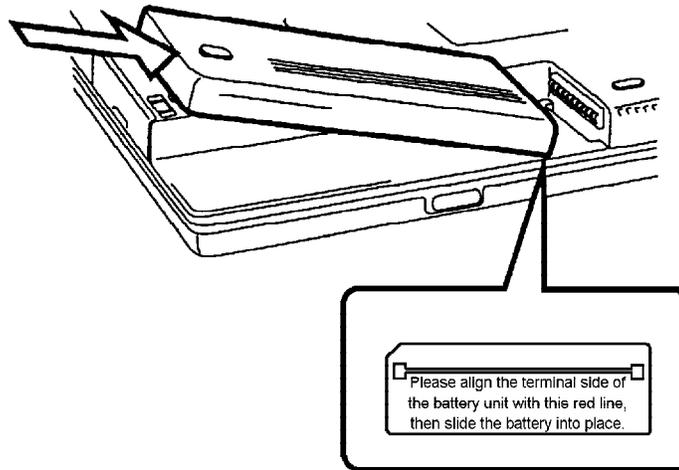

Figure 4-3 Installing the battery pack
2. Gently press down on the center of the battery pack and at the same time push it to the right. When the battery is nearly seated, you will feel a slight resistance. Press the battery in carefully until you feel it click into place, then lock the battery lock (figure 4-3).